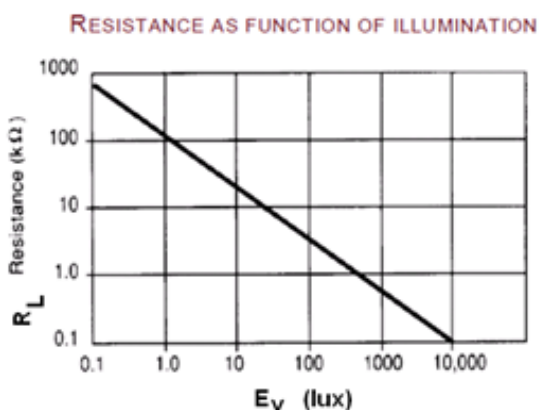
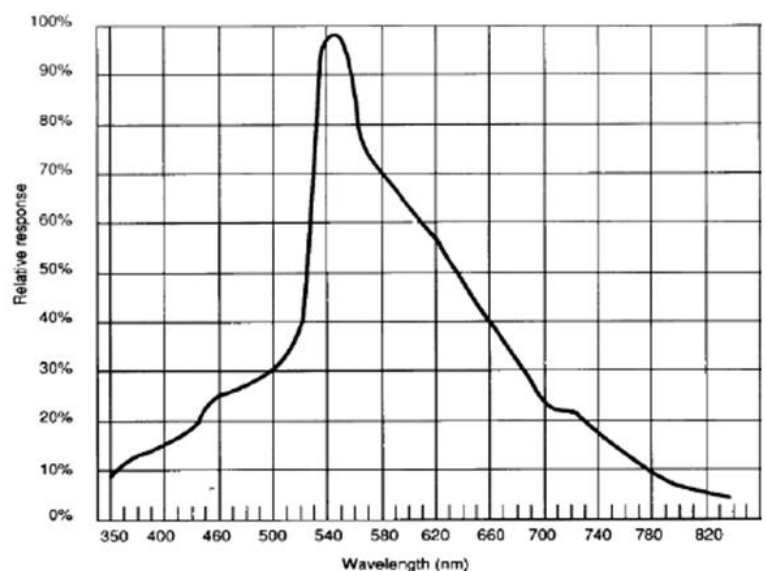

Figure 2: Typical sensitivity of LDR
Figure 3: Typical spectral response of LDR
The sensitivity of a LDR is the relationship between the light falling on the device and the resulting output signal (resistance). An example sensitivity plot is shown in Figure 2. Like the human eye, the relative response of a LDR cell is dependent on the wavelength (color) of the incident light. Each photoconductor material type has its own unique spectral response curve. Typical spectral response is shown in Figure 3.
1. Plot the Responsivity of each sensor separately (Figure 3 or 5).